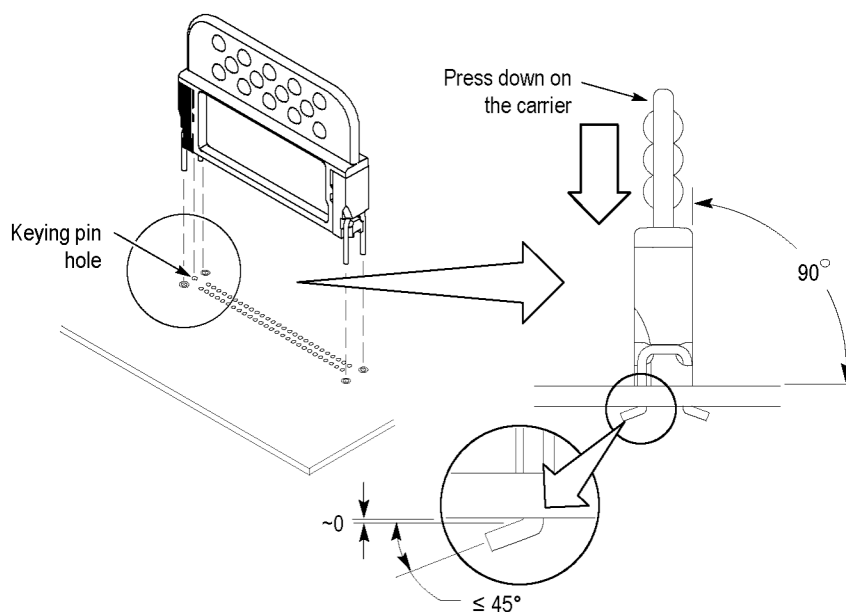

Figure 8: Installing the retention posts in the PCB
1. On the retention post/carrier assembly, locate the black retention post (the post with the keying pin) and align it to the keying pin hole on the PCB. (See Figure 8.)